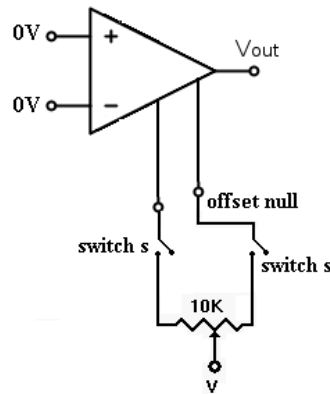

Figure 7.3
1. Implement the circuit shown in Figure 7.3